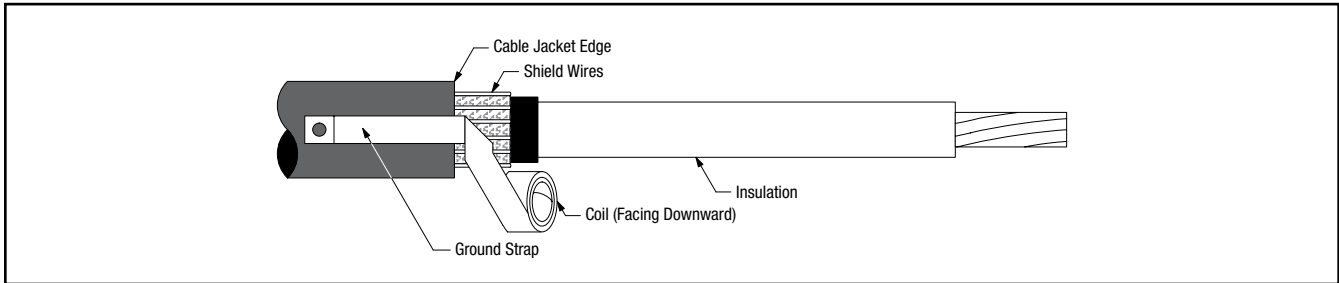

Figure 10
9.2 Lay ground strap along cable with the extended coil facing downward (away from you) (*Figure 10*).